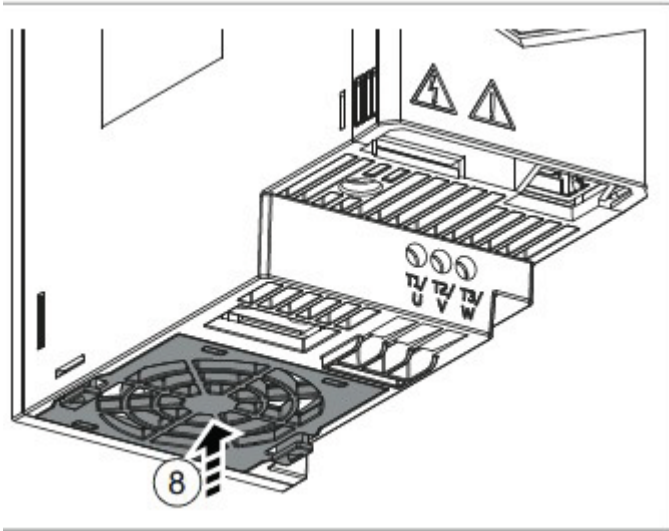

Fig. 60 — Reinstall ACH180 Cooling Fan
4. Reinstall the cooling fan. See Fig. 60.